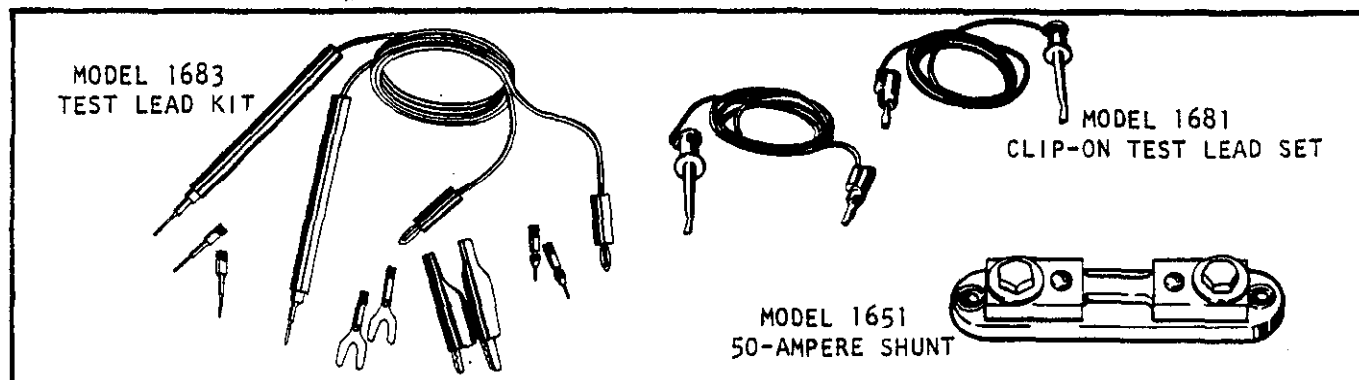

FIGURE 2-5. Accessories.
b. Model 1651 50-Ampere Shunt. The Model 1651 50-Ampere Shunt (shown in Figure 2-5) permits current measurements from 0-50A dc and from 20-50A ac. The shunt has a resistance of 0.001 ohm ±1%, so that a 50-ampere current will correspond to a reading of 50 millivolts (0.0500 volt). Set the DMM to ACV or DCV and select the required range. To use the shunt, connect the leads furnished with the shunt from the shunt screw terminals to the DMM input terminals. Use separate leads (not furnished) to connect the source to the hex head bolts. Be sure to use leads with a capacity of 50 amperes, or as needed.
c. Model 1681 Clip-On Test Lead Set. This set (shown in Figure 2-5) contains two leads with banana plugs at one end and spring-action clip-on probes at the other end. Plug the leads into the DMM and attach the probes to the source.
d. Model 1683 Universal Test Lead Kit. This kit (shown in Figure 2-5) contains two test leads, 14 tips, two probes, four banana plugs, two spade lugs, and two phone tips to permit connection of the DMM to virtually any source within its range.